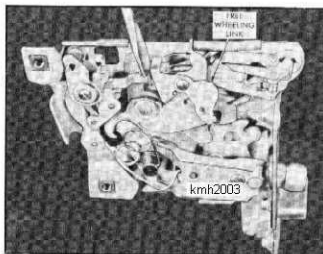

Fig. 47—Lock to "Free-Wheeling"
2. To place lock in free-wheeling, trip link in the direction indicated by the arrow (fig. 47).